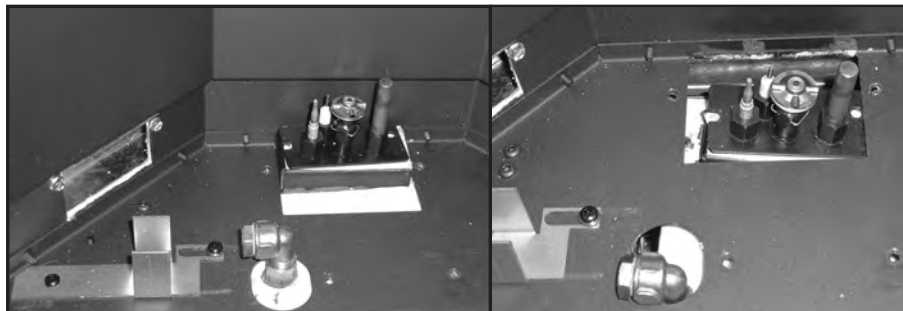

Figure 50. Remove the pilot shield, orifice and valve assembly.
5. Remove the pilot shield, orifice and valve assembly (see Figures 50).